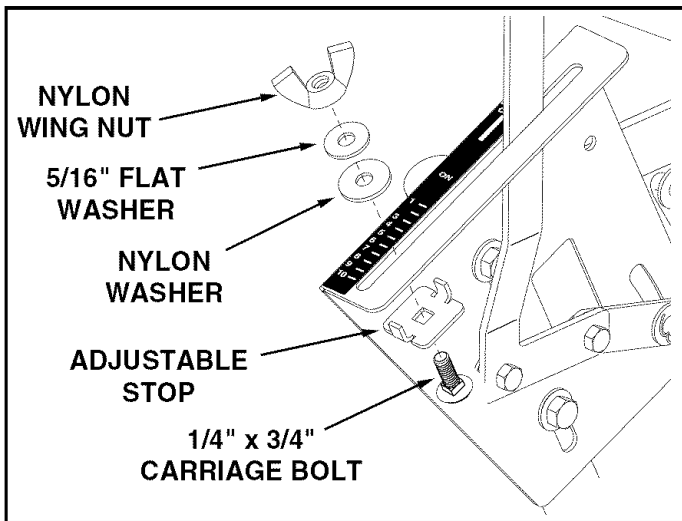

FIGURE 11
- Place the adjustable stop into the "ON" end of the slot in the top of the flow control mounting bracket. Secure with the 1/4" x 3/4" carriage bolt, a nylon washer, a 5/16" flat washer and the nylon wing nut. See figure 11.